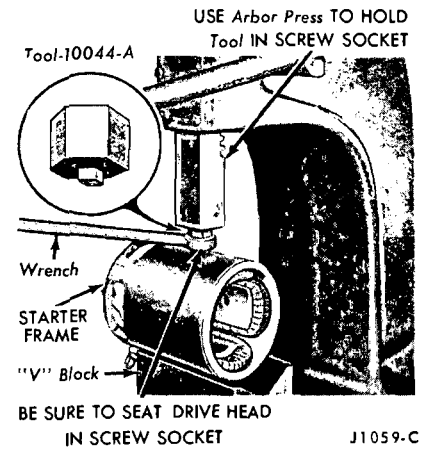

FIG. 3—Pole Shoe Screw Removal
8. Remove the three coil retaining screws, using tool 10044-A and an arbor press (Fig. 3). The arbor press prevents the wrench from slipping out of the screw. Unsolder the field coil leads from the terminal screw, and remove the pole shoes and coils from the frame (use a 300-watt iron).
2. Position the coils and pole pieces, with the coil leads in the terminal screw slot, and then install the retaining screws (Fig. 3). As the pole shoe screws are tightened, strike the frame several sharp blows with a soft-faced hammer to seat and align the pole shoes, then stake the screws.